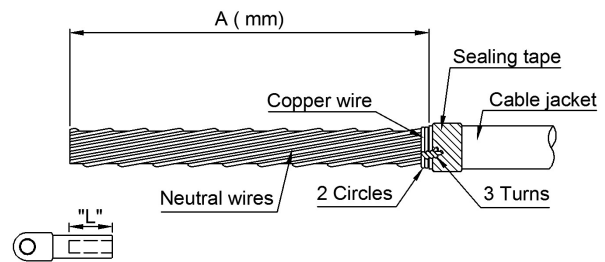

Fig.4
- Measure down from top of the cable as shown in Fig.4 . Remove cable jacket (if jacketed cable is used) to expose neutral wires.